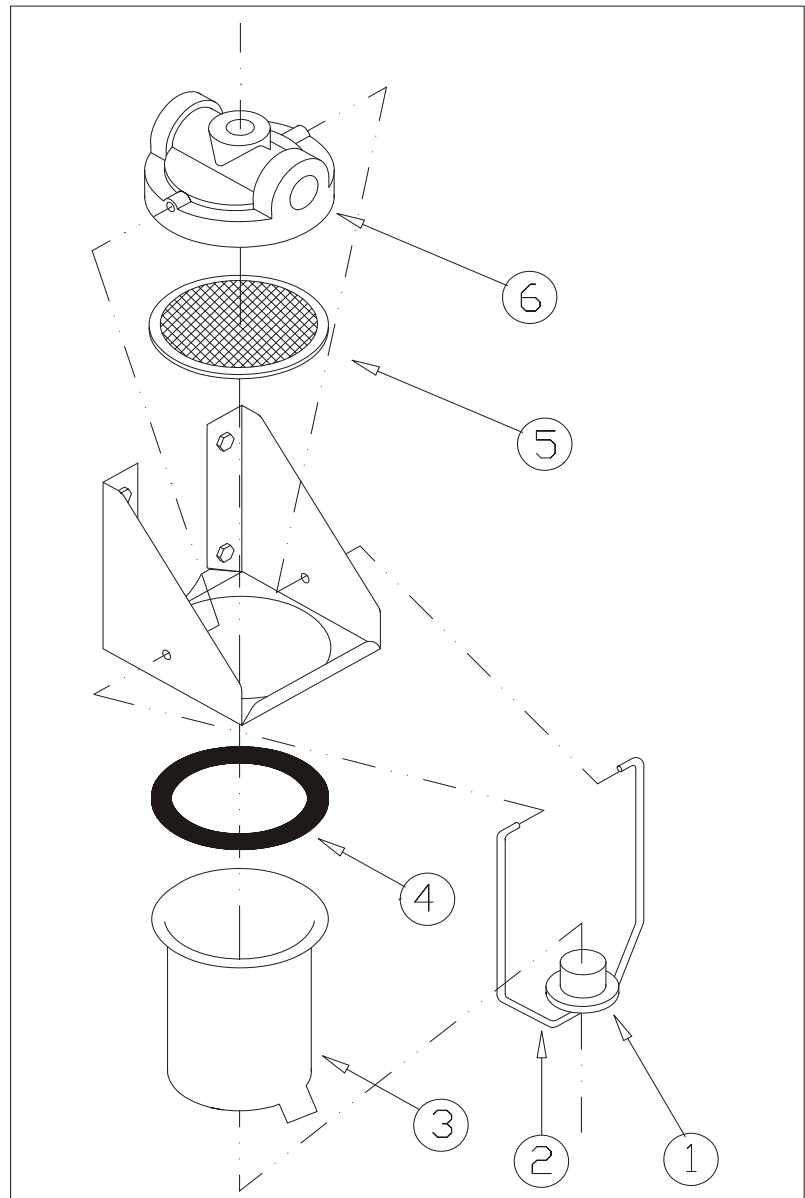

Figure 9
- 3 Loosen the knurled nut (1, figure 9).
- 4 Remove the mounting bracket (2).
- 5 Remove the fuel reservoir (3) and the sealing ring (4).
- 6 Remove the strainer (5) and the gascolator cover (6).